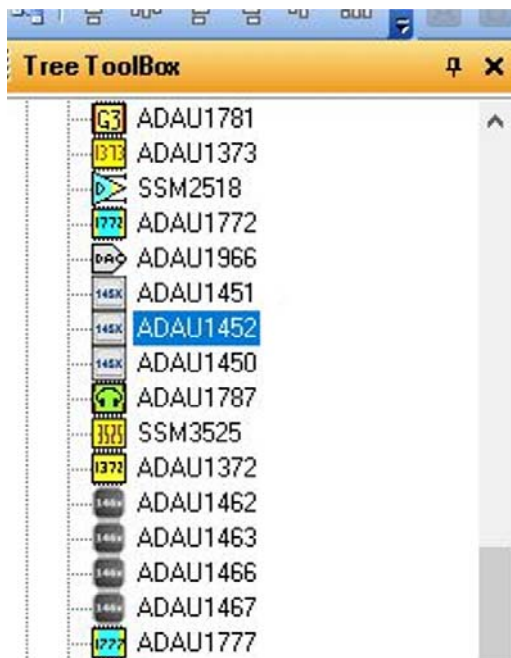

Figure 15. Adding an **ADAU1452** Component
When using the EVAL-ADAU1452REVBZ board to evaluate the ADAU1462, select the ADAU1462 block rather than the ADAU1452, as shown in Figure 15.
5. Add an **IC 1** block to the project by clicking the **ADAU1452** component from the **Processors (ICs/DSPs)** subsection (see Figure 15), and then dragging it into the project space.